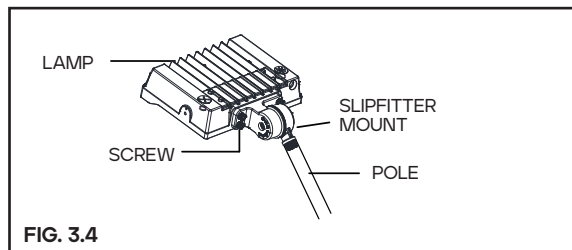

FIG. 3.4
STEP 3. Loosen screws: Adjust fixture angles as per actual demands and tighten screws later. Angle of the fixture is adjustable (pass the bracket through mounting surface, fix it with screws, then connect the wires as per proper wiring requirements) **FIG. 3.4**